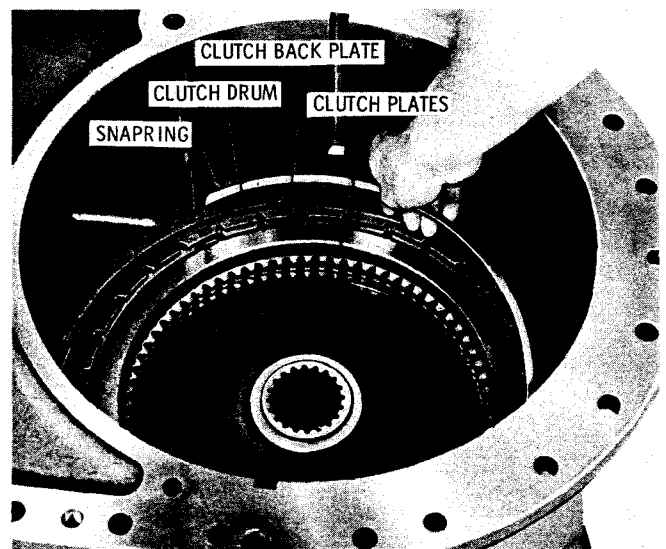

Fig. 5-74. Removing high-range clutch back plate snapping
(12) Remove the large internal snapping from the high-range clutch drum. Remove the high-range clutch back plate (fig. 5-74) and five clutch plates from the clutch drum.